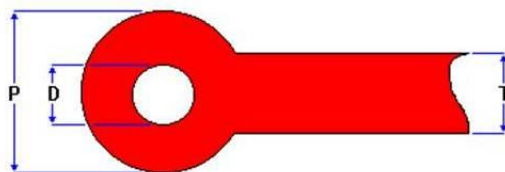

Figure 6-26: Library Creation – Track/Pad/Through Hole relationship
31. An important design rule to always remember is the relation between the track and the pad, as shown in Figure 6-26.